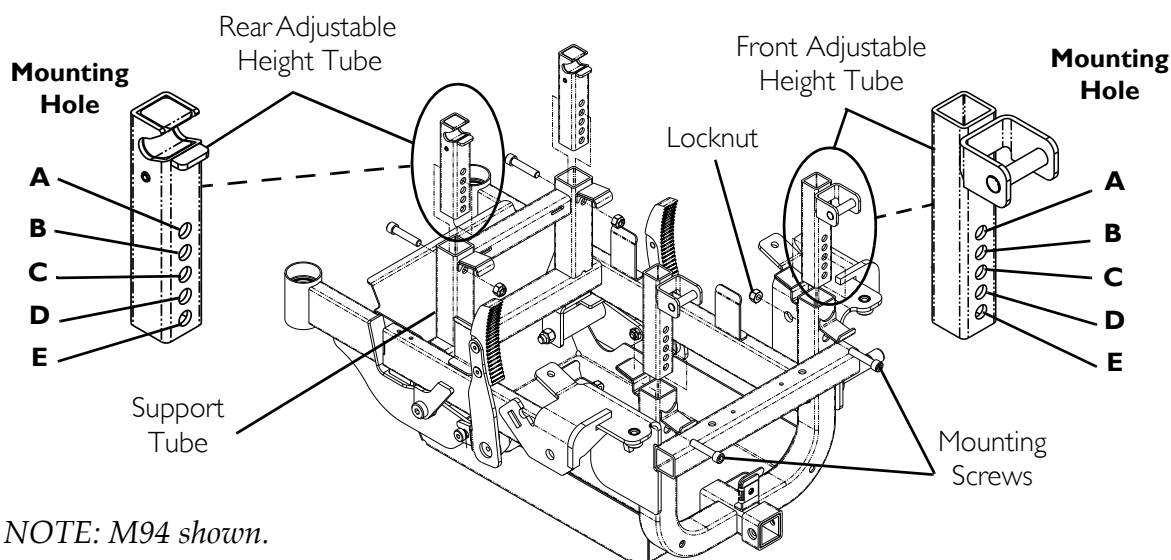

FIGURE 4.4 Adjusting the Seat Height
NOTE: For this procedure, refer to FIGURE 4.4 on page 42.
3. Adjust tube to desired mounting position. Refer to the table in FIGURE 4.4 on page 42 for available mounting positions.
4. Reinstall mounting screw and locknut (FIGURE 4.4). Securely tighten.